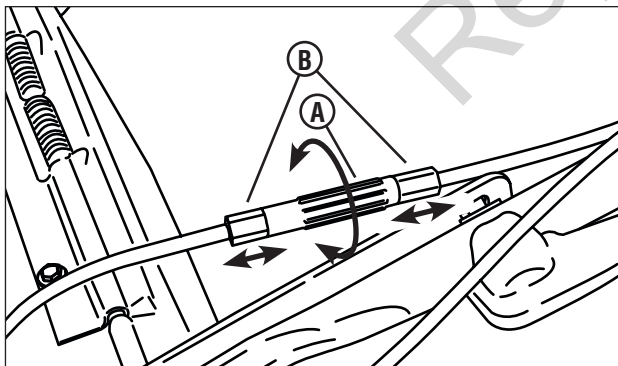

Figure 17: Adjusting the drive cable
- If the transmission does not engage, rotate the turnbuckle (**A**, **Figure 17**) one-half turn to move the ferrules (**B**) out from the turnbuckle. Check and repeat as needed.